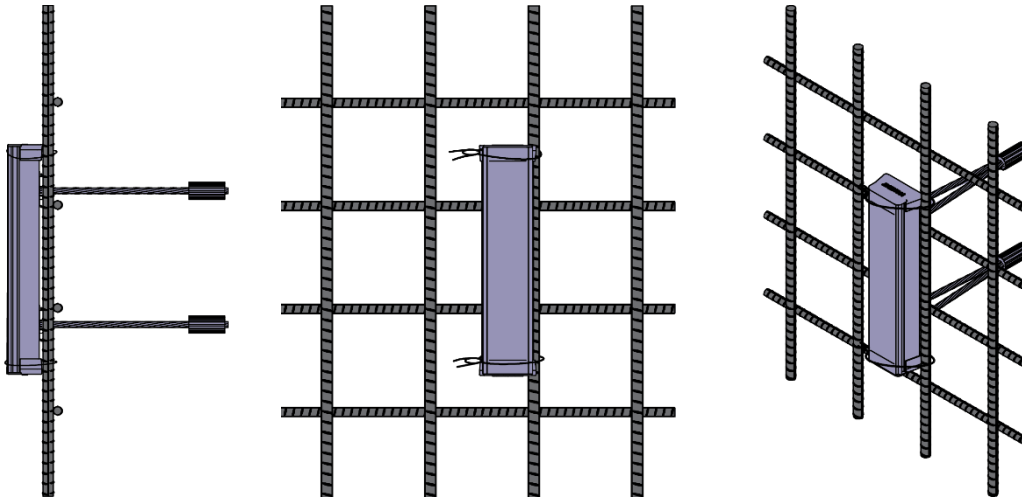
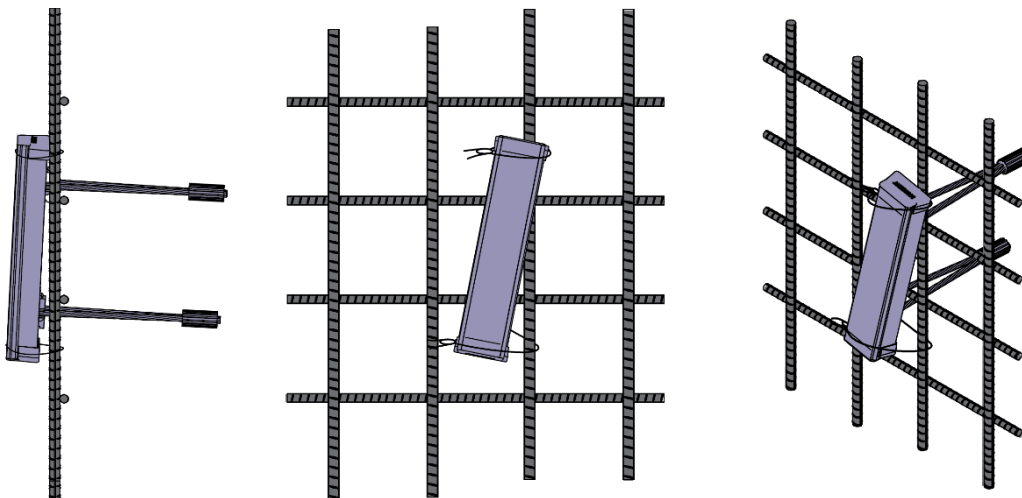

*Figure 1: Securing Wood Batten onto Formwork.*
*Figure 2: Securing Double Loop Box onto Batten.*
1. The MOMENT Loop Box Single or Double (MLB-S/D) must first be positioned and secured, one by one to the batten on the formwork, using either hot glue or nail (Figure 1, Figure 2). Ensure zero gap between MLB and batten.